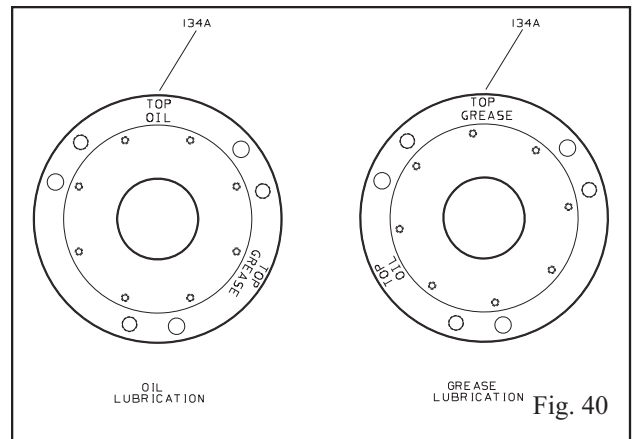

Fig. 40
- **Oil Lubrication:** Orient bearing housing so the words “TOP OIL” are on top (Fig. 40).
- **Grease Lubrication:** Orient bearing housing so the words read “TOP GREASE” are on top (Fig. 40).